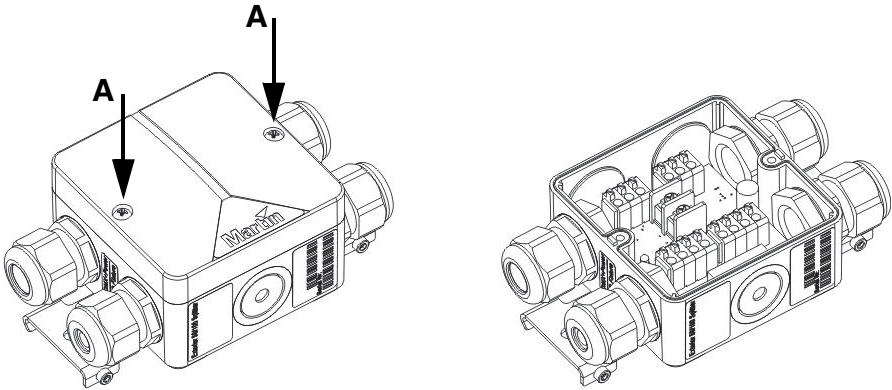

Figure 20: Internal access to Splitter
2. See Figure 20. Remove the two screws **A** from the top cover and lift the cover off the Splitter housing for access to the terminals and fuse.